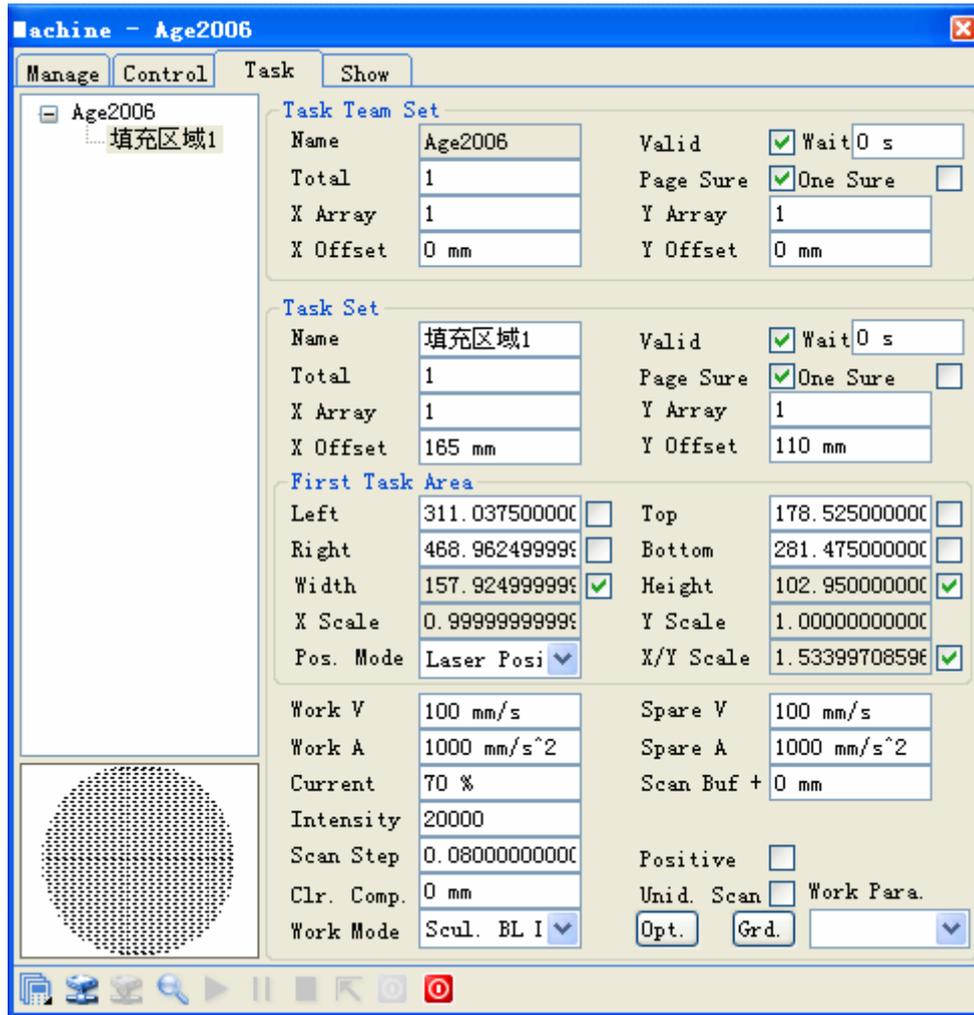

Figure 6-37 Task Dialog
- Set the parameters in the mission manage dialog box. Choose the Sculpture Backlight Line work mode combo box, choose Sculpture Backlight Line in the work parameters configure combo box, the software will set all the parameters automatically, likes the Figure 6-37 shows: